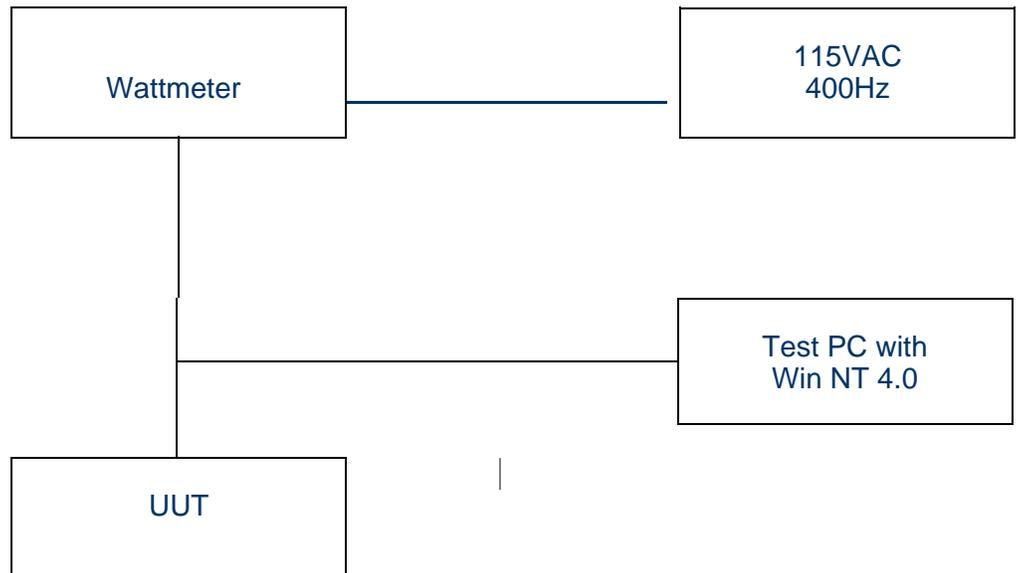

FIGURE 104. TEST CONFIGURATION
- (1) Connect test equipment in configuration shown in Figure 104.